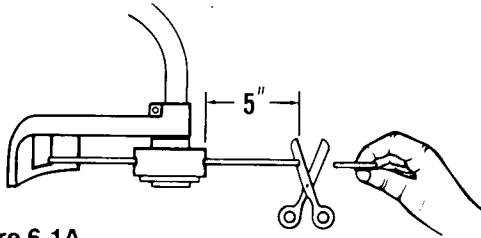

Figure 6-1A
**NOTE:** To minimize load on engine during starting and warm-up, trim excess cutter line to 5 inches. (Figure 6-1A)